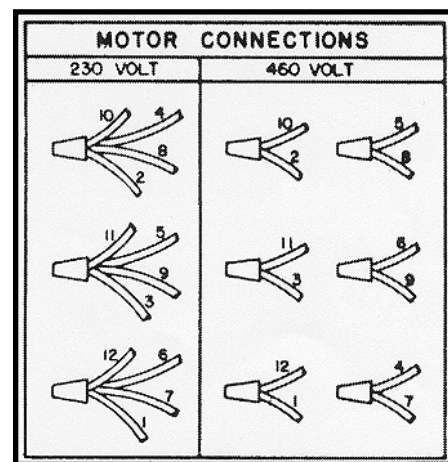

Fig. 3
1. Change leads in the motor junction box for the proper line voltage, as shown on the motor nameplate. Refer to Fig. 3.